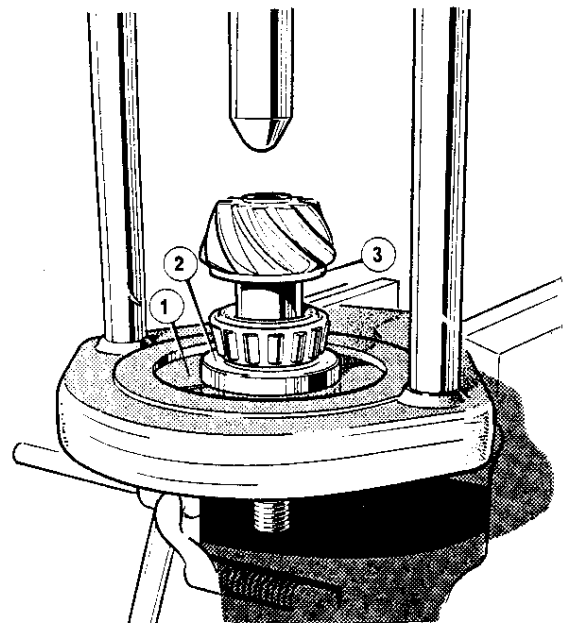

Figure 12 Replacing pinion bearing cone using hand press and collars
5. Remove the dummy pinion assembly, place the selected spacer on the pinion and assemble the bearing cone, using the hand press tool No. 47, adapter RT 8765/2 and bearing replacer collars RT 8765/1 (Figure 12)